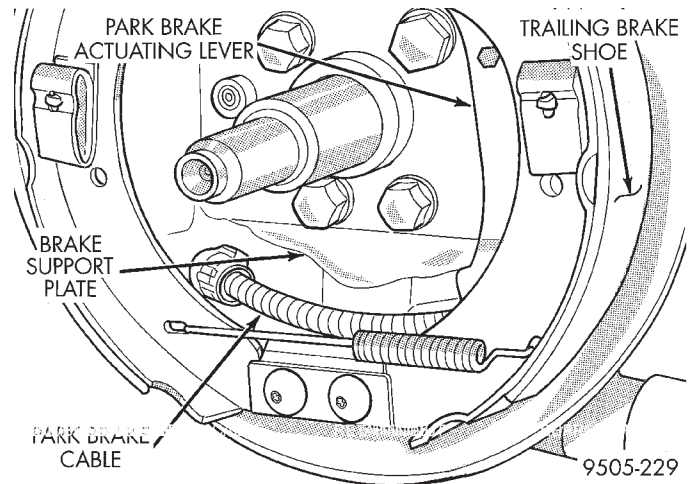
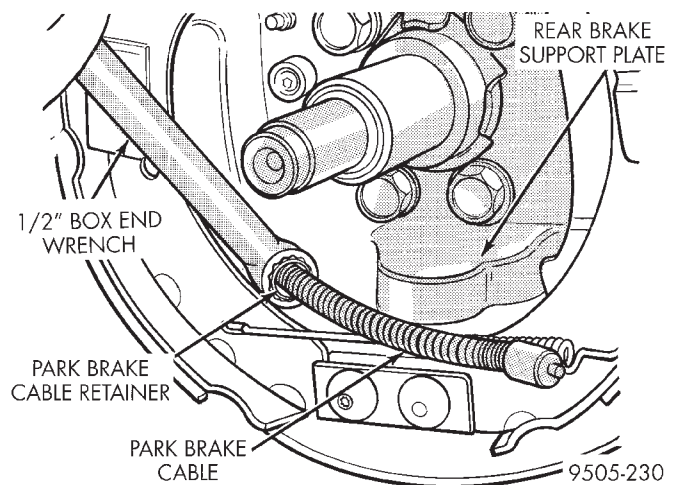

Fig. 10 Park Brake Cable Attachment To Actuating Lever
Fig. 11 Park Brake Cable Removal From Brake Support Plate
(5) Remove the park brake cable from the park brake actuating lever (Fig. 10). Then remove the park brake cable from the rear brake support plate (Fig. 11). Park brake cable is removed from brake support plate using this procedure. Position a 1/2 inch box end wrench over cable retainer (Fig. 11) to collapse retaining tabs. Then pull rear brake cable from brake support plate.